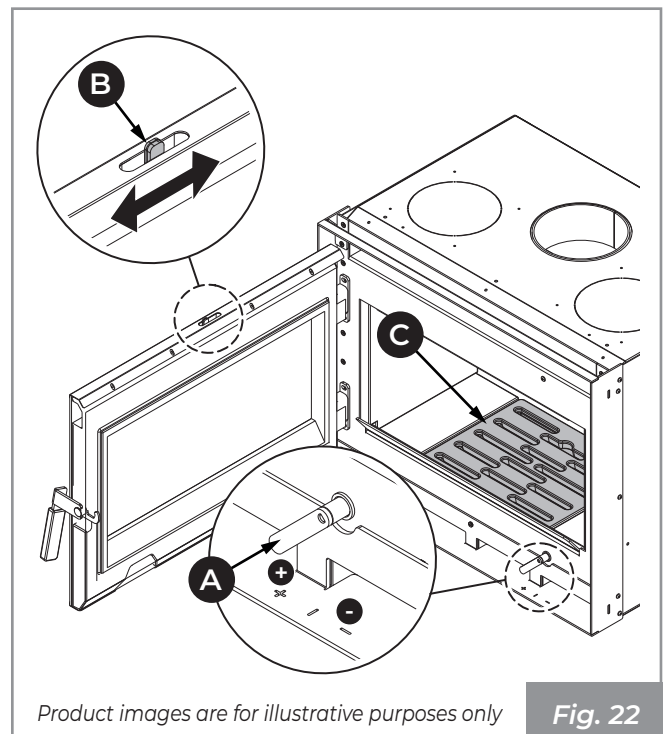

Fig. 22
- Open the primary air regulator (**A**) and the glass cleaning regulator (**B**) completely (+) (**Fig. 22**).
- Carefully place the pieces of wood in fire box grate (**C**) (**Fig. 22**).